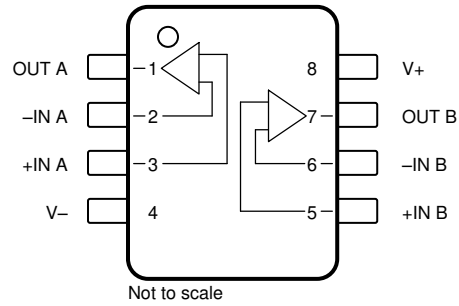

Figure 4-3. Pin Diagram (TSSOP (PW) | 8 Package)
4.3 TSSOP (PW) | 8 Package
Figure 4-3 shows the OPA2991-Q1 pin diagram for the TSSOP (PW) | 8 package. For a detailed description of the device pins, see the *Pin Configuration and Functions* section in the OPA2991-Q1 data sheet.